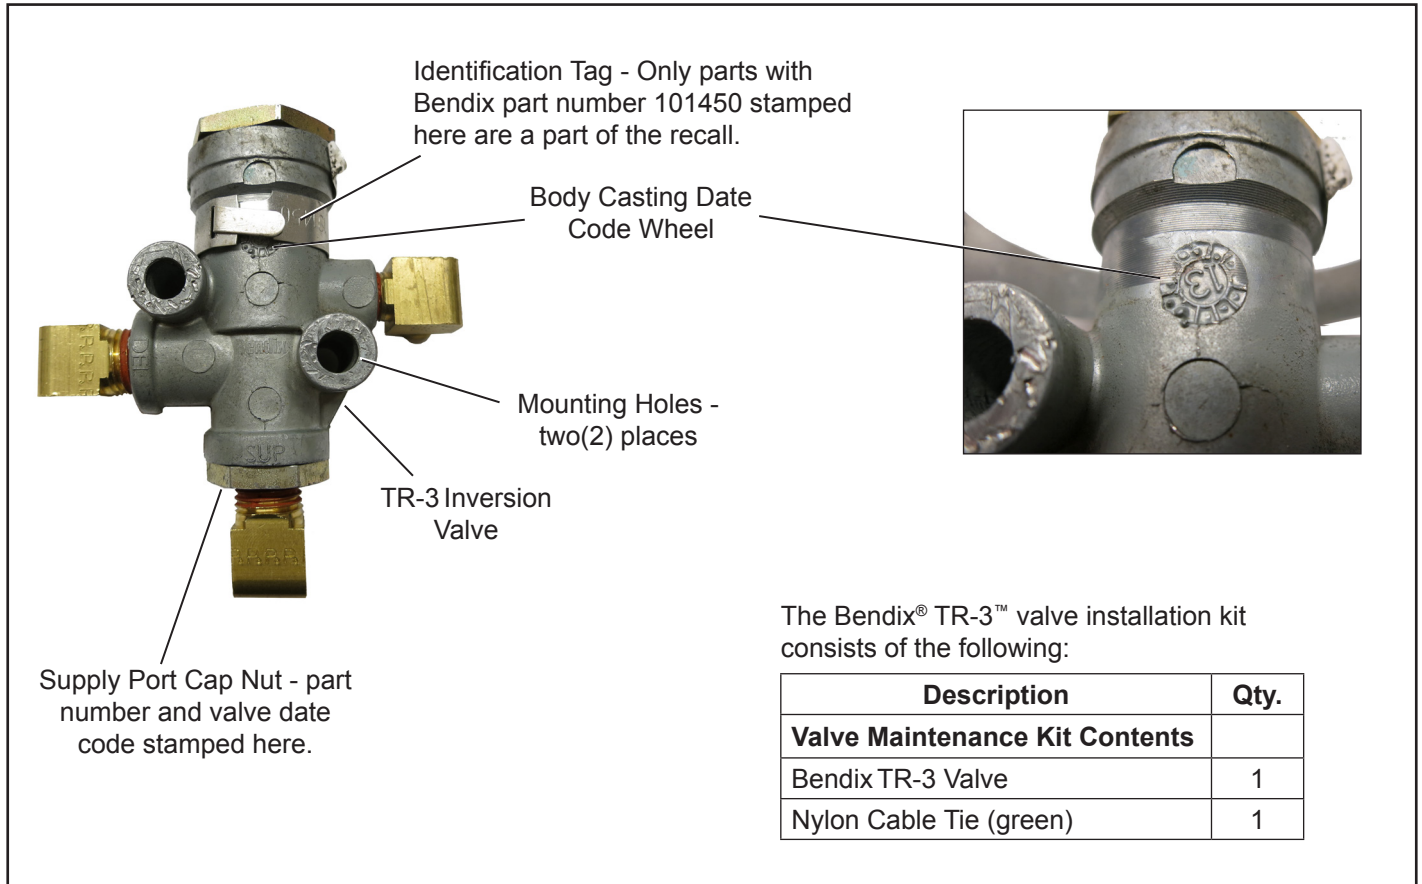

Figure 1 **Bendix® TR-3™ Inversion Valve Kit Contents**
2. Locate the identification tag that covers the body casting date code wheel on the valve body. *Refer to Figure 1.*
4. Underneath the identification tag is the body casting date code wheel. If the number 13 appears in the center of the wheel the valve *may be* a part of the recall. If any other number appears in the center, the valve *is not* a part of the recall. To view this date code, remove the identification tag by bending the tab back and sliding the tab out of its slot. If it is determined that the valve is not a part of the recall campaign, replace the identification band and return the vehicle to service. *Refer to Figure 1.* You may want to secure a nylon cable tie to the valve so that the valve inspection process is not repeated.
6. Further investigation to determine if the valve is a part of the recall is still needed. To find the date of manufacture of the valve assembly, look at the supply port cap nut for the part number and date code stamp. Refer to Figure 1 for location.